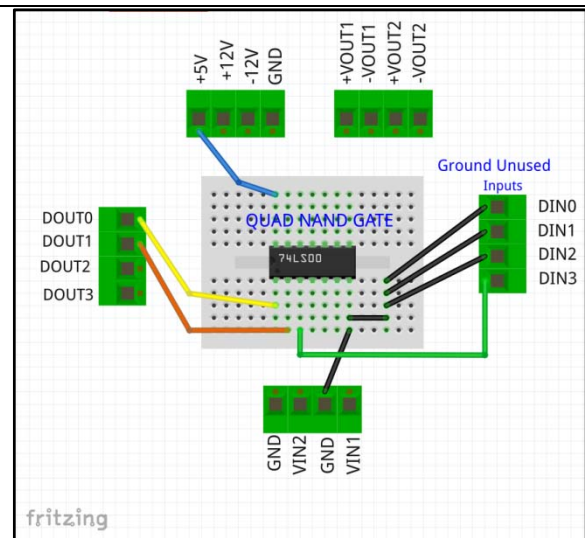

Fig 22. Test Setup
1. Connect the Quad NAND gate IC LM7400 along with +5V supply and ground using the setup shown in Fig 22.